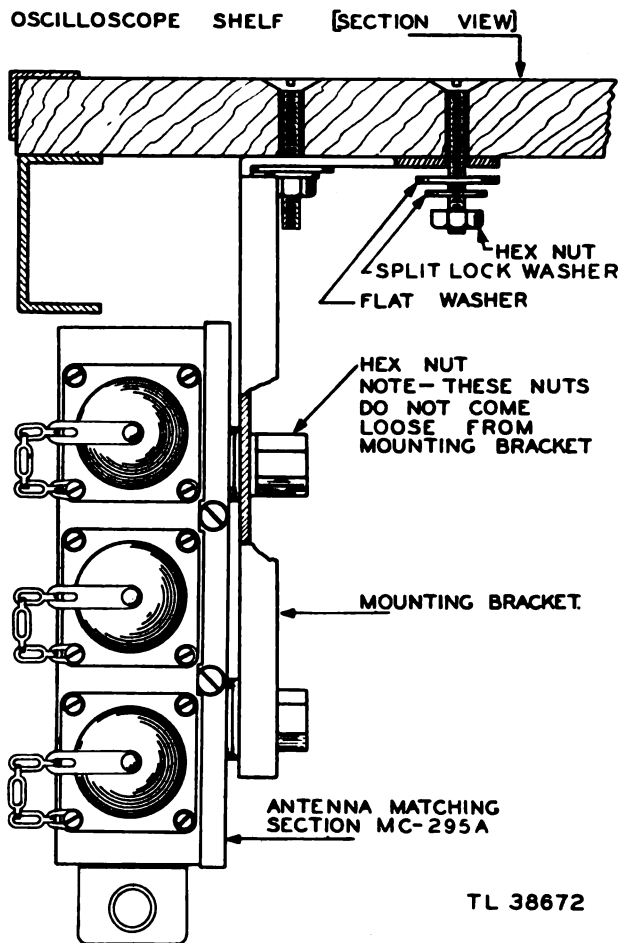

Figure 24. Antenna Matching Section MC-295-A mounted on oscilloscope shelf, end view.
f. From the top of the oscilloscope shelf insert six number 12-24 x 1 1/4-inch flathead bolts. Place a split lockwasher and a 12-24 nut on each bolt and tighten (fig. 24).